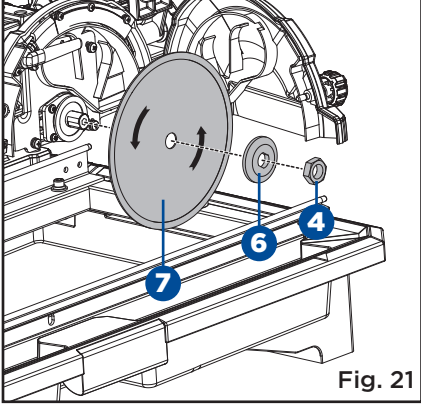

Fig. 21
- Place cutting wheel (7) onto arbour (with arrows on wheel going in the counter-clockwise direction). (Fig. 21)
- Replace outer washer (6), making sure the flats are aligned with the flats on arbour. Replace arbour nut (4) on arbour. (Fig. 21)